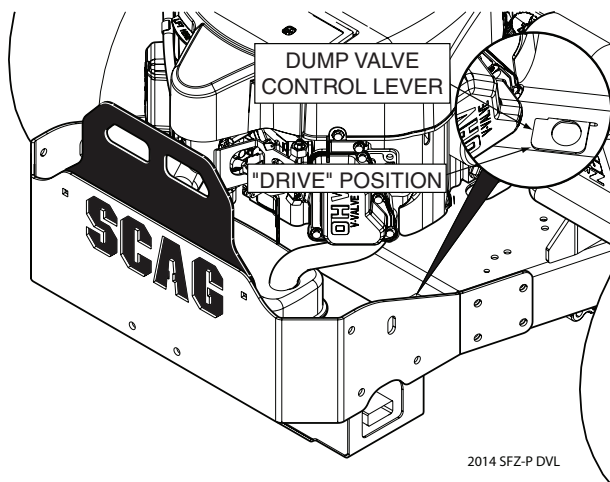

Figure 7-4. Dump Valve Control Lever
11. Move the dump valve controls to the "freewheel" position by pulling the levers backward and locking in the notch (towards the rear of the mower). See Figure 7-4.
14. Engage the parking brake. Move the dump valve control levers to the "drive" position. See Figure 7-4.